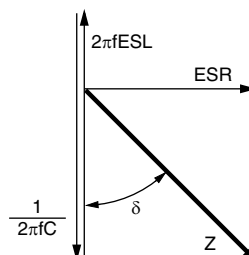

Fig. 11 - Vector diagram showing the AC parameters of a capacitor
The impedance (Z) of an aluminum capacitor is given by capacitance, ESR and ESL in accordance with the following equation (see Fig. 11):